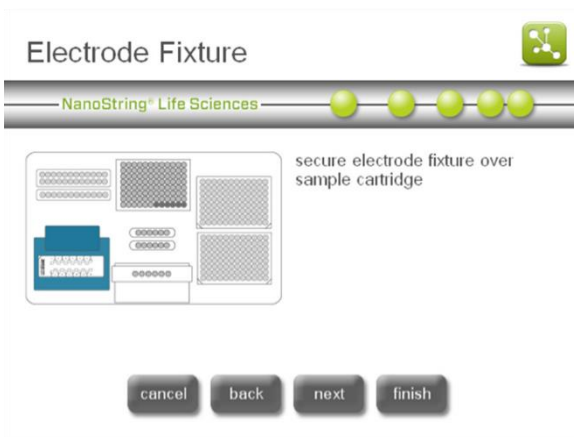
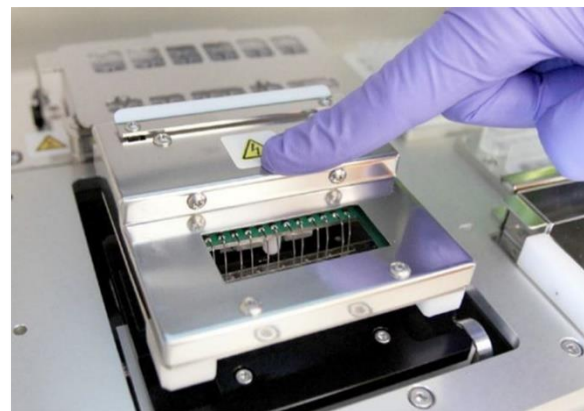

Figure 26: The 'Electrode Fixture' screen.
Figure 27: Carefully lower the electrode fixture into place over the cartridge.
10. The 'Electrode Fixture' screen will appear (**Figure 26**). Carefully lower the electrode fixture in place over the cartridge (**Figure 27**). The 24 electrodes should insert into the 24 wells. Press **next**.
IMPORTANT: Do not use the release handle while lowering the fixture. Doing so will prevent the fixture from locking. Press on the body of the fixture away from the release handle (**Figure 27**).